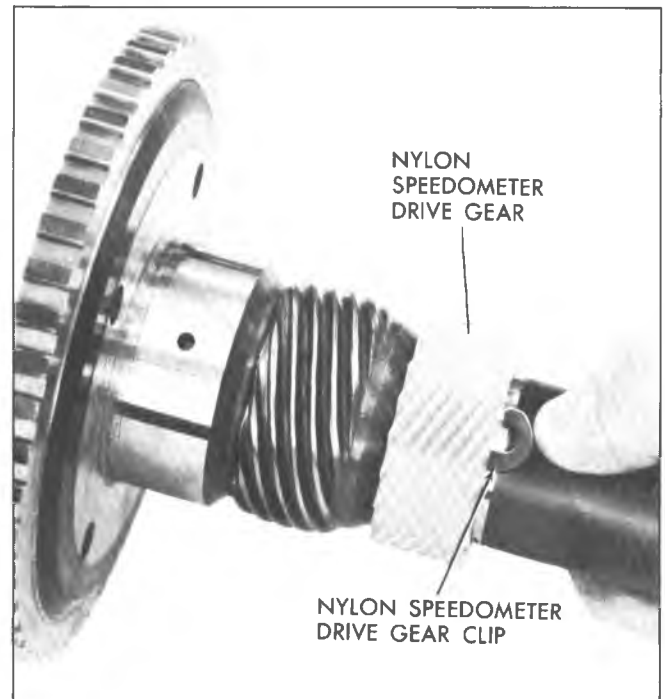

Fig. 46T--Removing Speedometer Drive Gear
1. Depress clip and slide speedometer drive gear off output shaft (Fig. 46T).